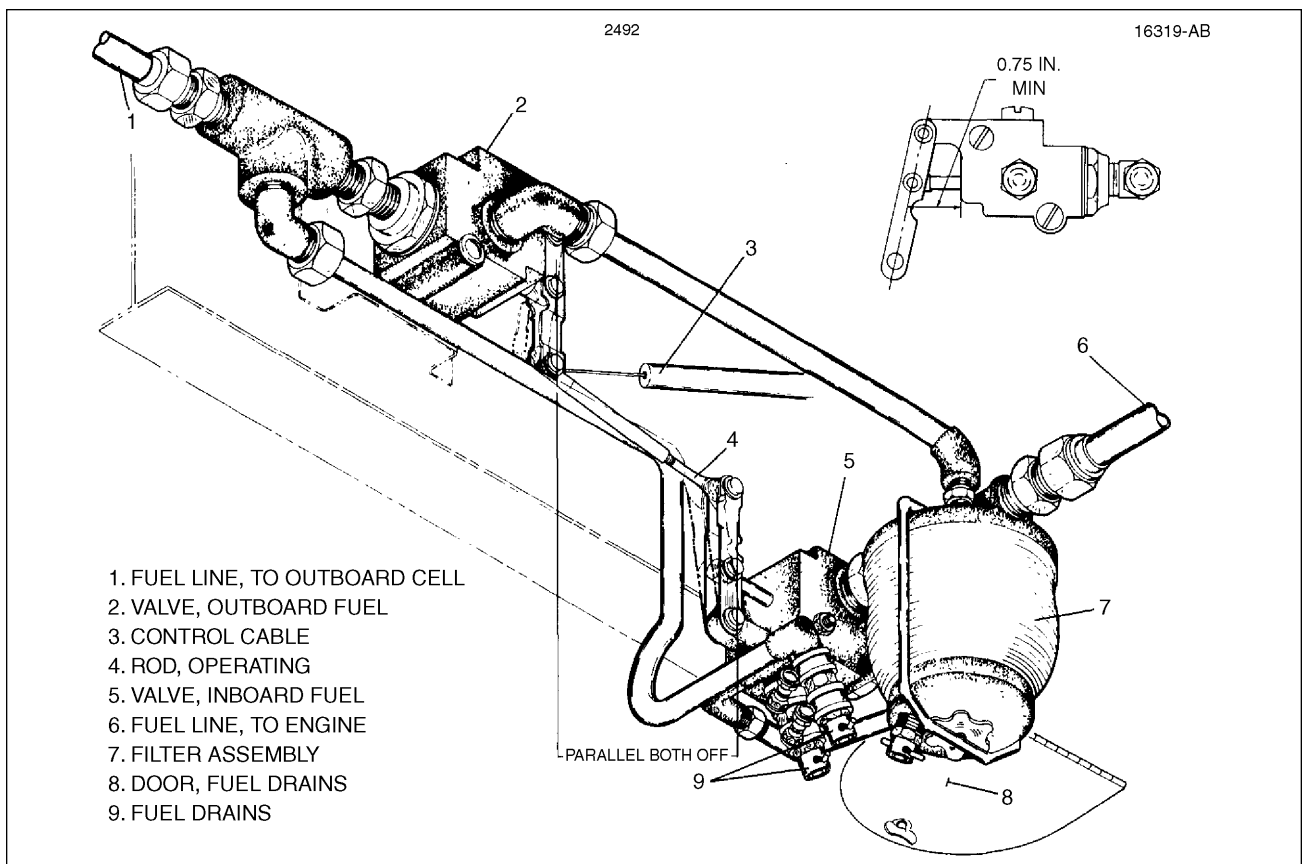

Figure 9-15. Fuel Selector Valve Installation
9-22. REMOVAL OF FUEL SELECTOR VALVE. (Refer to Figure 9-15.)
9-27. INSTALLATION OF FUEL SELECTOR VALVE. (Refer to Figure 9-15.)
- 9-28. ADJUSTMENTS FOR FUEL SHUT-OFF VALVE CONTROLS. (Refer to Figure 9-15.)